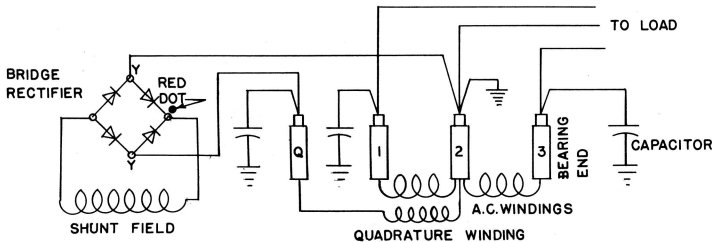

Figure 23
8. If no A.C. voltage is obtained at the brushes, check the exciter voltage by connecting a D.C. voltmeter directly to the D.C. Brushes. The voltage should be between 17 and 55 volts as shown in Table 2. This will produce a dim to bright light, dependent on the voltage output if a 115 volt bulb is used. If the D.C. voltage is satisfactory, omit Step 9 and proceed to Step 10. NOTE: Some units feature electronic excitation. One type using electronic excitation has an extra layer of wire, called a quadrature winding, on the armature. See Figure 23.